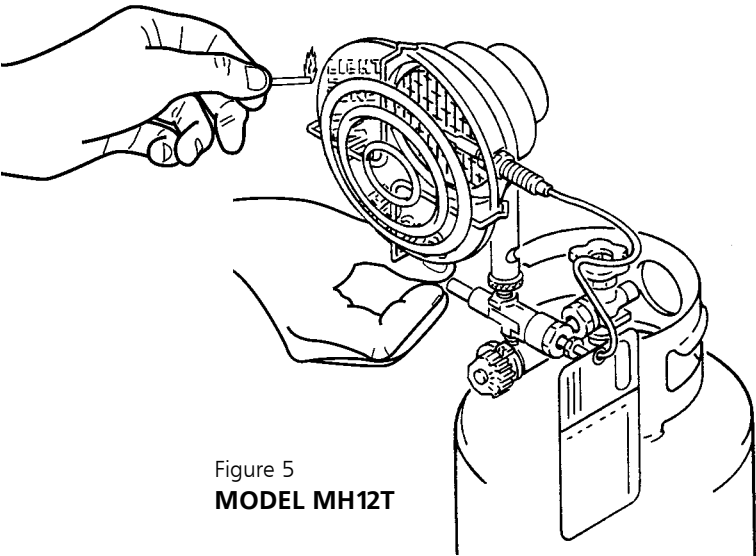

Figure 5
- D. To light MH12T, place a lit match across the mesh screen where you see "light here" on reflector. (See Fig. 5) THEN push in valve
- B. When shutting off the heater, turn the regulator knob on the heater to "OFF" (clockwise). (See Figure 5 and 5a)